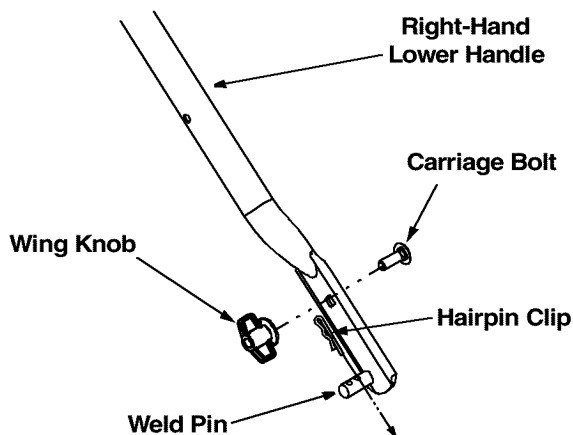

Figure 4
- Using a pair of pliers, insert the hairpin clip into the inner hole in the weld pin. Insert the carriage bolt included in the hardware pack as illustrated below and secure with wing knob. See Figure 4.